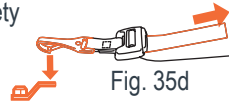

Fig. 35d
8. Attach Top Tether to a designated anchor point. Pull Top Tether strap until webbing strap is snug (Fig. 35d).